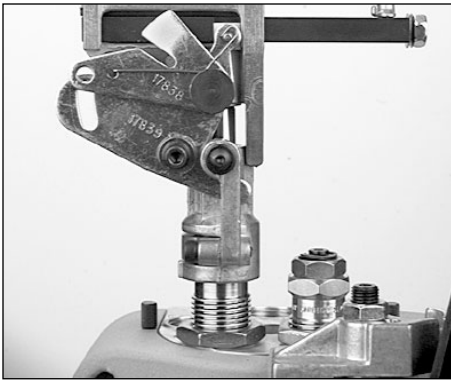

FIG 94
3. Raise the platform. Check to see how far the powder bar has traveled **FIG 94**.
5. Repeat step four until the powder bar travels its full distance **FIG 94**.